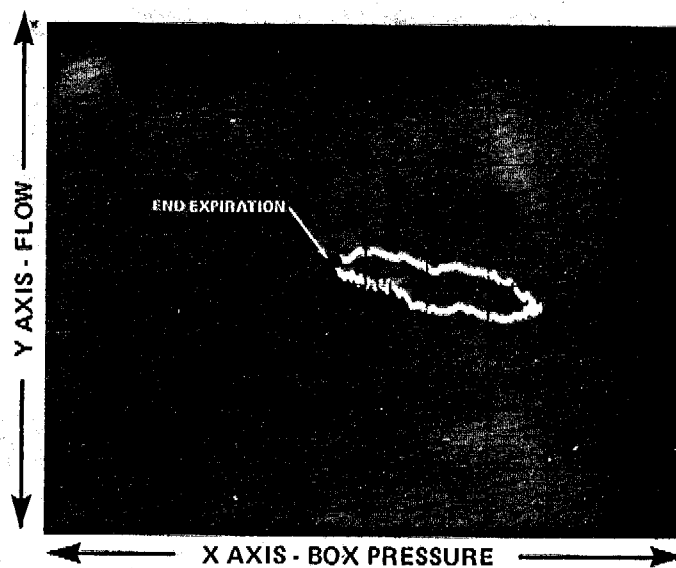
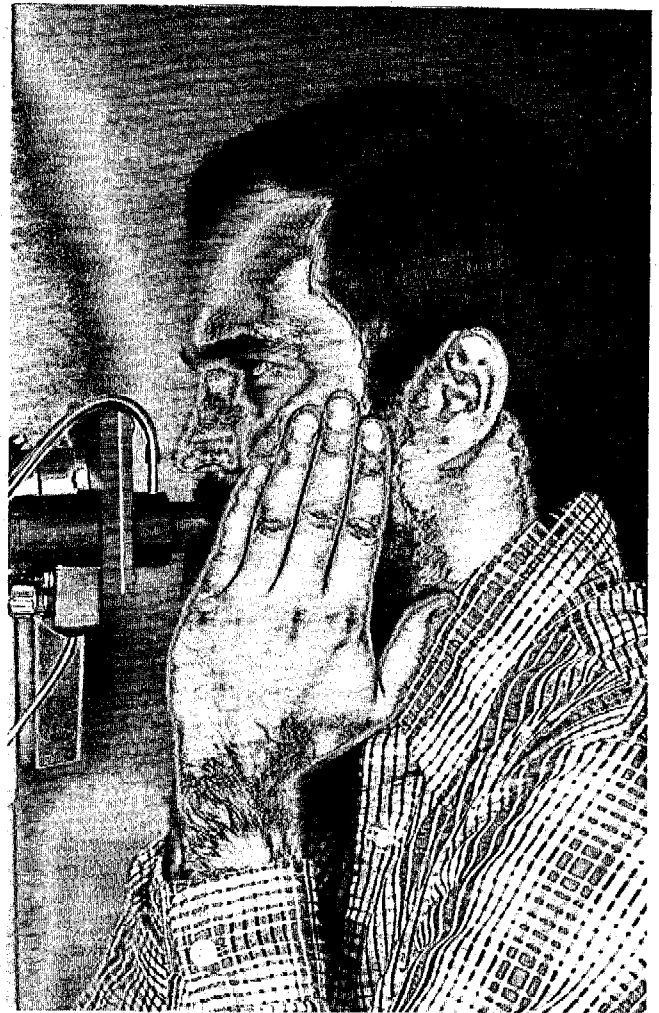

Figure 27 - Trace - Normal Tidal Volume
Figure 28 - Method of Keeping Cheeks Rigid
B.10. While the patient breathes normally through the mouthpiece, the trace appears as in Figure 27. Notice that the trace drifts to the right. Occasionally vent the Body Box by moving the BOX VENT switch to MOM. OPEN for a few seconds. The trace should stabilize in the center of the screen within 2-5 minutes.
B.12. At precisely end expiration (point marked on Figure 27), move the switch from BP/FLOW to BP/MP, thus closing the mouth shutter. Before the mouth shutter is closed, the patient must be informed, via the patient intercom, that this is going to happen. When the mouth shutter closes, the patient must attempt to pant, keeping his glottis open and cheeks as rigid as possible. The patient may keep his cheeks rigid by pressing his palms against them (Figure 28).
C.10. While the patient breathes normally through the mouthpiece, the trace appears as in Figure 27. Notice that the trace drifts to the right. Occasionally vent the Body Box by moving the BOX VENT switch to MOM. OPEN. The trace should stabilize in the center of the screen within 2-5 minutes.
C.12. Have the patient pant so that the peak flow equals about 1-2 liters/second. If the patient pants too deeply, the trace will be too wide, and if he pants too rapidly, the trace will be too high. During this complete test, the patient must keep his cheeks rigid (refer to Figure 28).